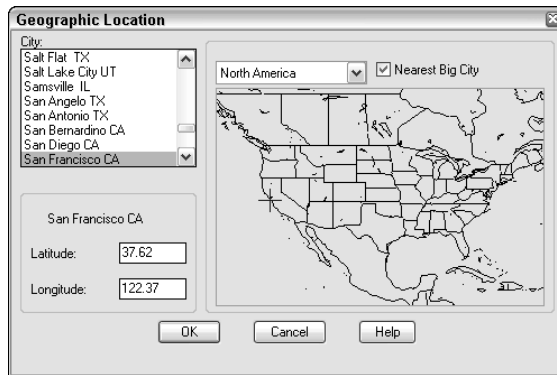

Figure 25-11: Use the Geographic Location dialog box to determine latitude and longitude for specific locations.
6. If you don't know the latitude and/or longitude, click Geographic Location to open the Geographic Location dialog box, shown in Figure 25-11.